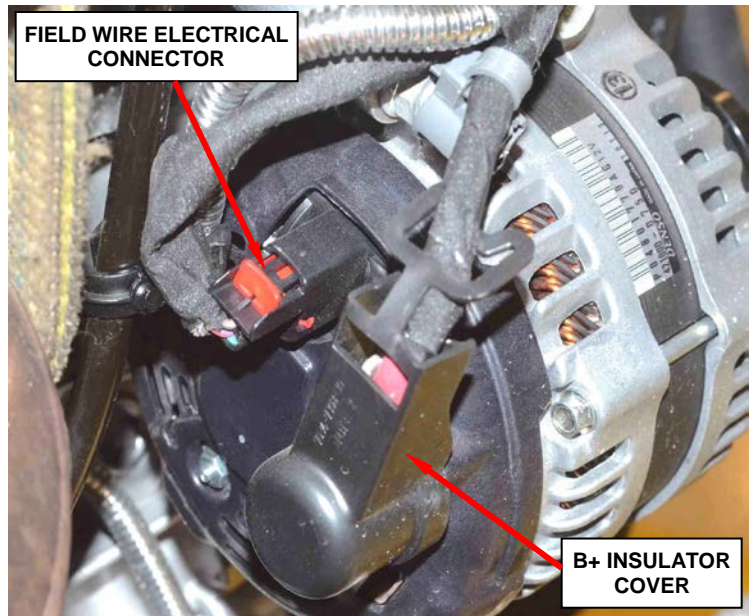

Figure 10 – Alternator Electrical Connections
4. Remove the insulator cover from the B+ output terminal at the rear of the alternator (Figure 10).
6. Depress the field wire electrical connector tab at the rear of the alternator and disconnect the field wire electrical connector (Figure 10).